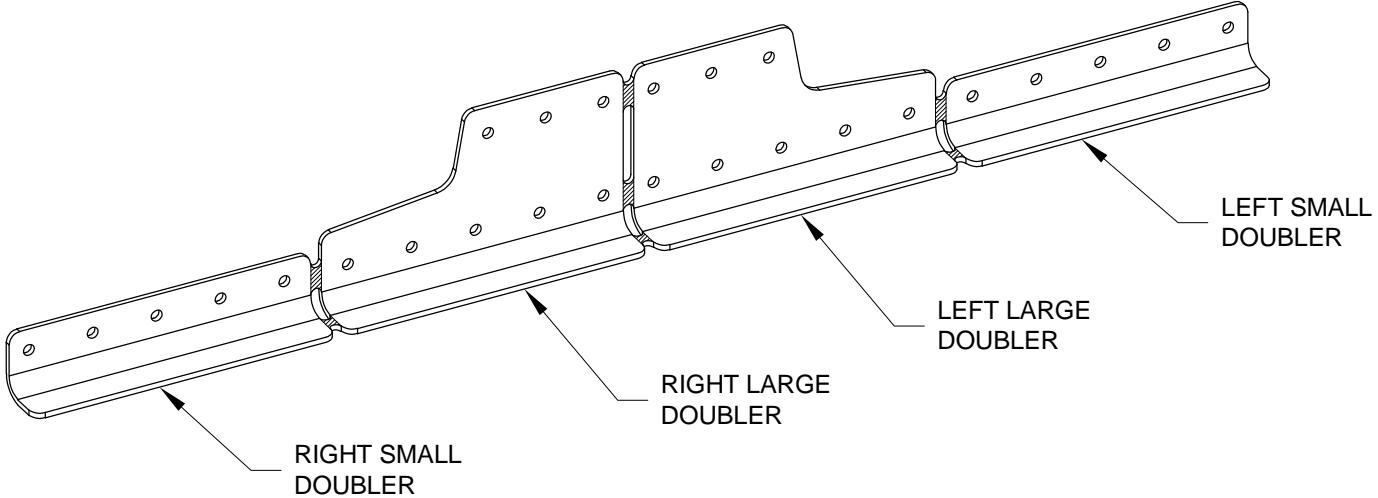

FIGURE 2: SEPARATE THE W-00007CD AILERON ATTACH DOUBLERS
Step 5: Label, then separate the Aileron Attach Doubler into individual parts by removing the shaded areas shown in Figure 2.